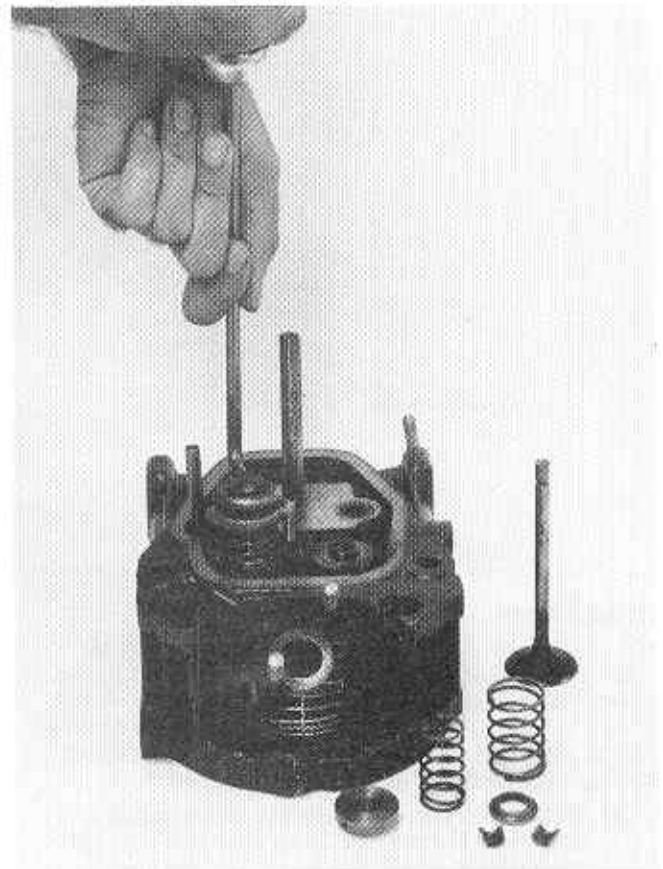

Figure 5.3 Valve Removal
Cylinder Head Dismantling (Figure 5.3)
- (3) Clean the carbon from the counter-bore at the valve head end of the valve guide bore. (Figure 5.3). Check the valve guides for wear if worn renew the guides.
- (4) Clean the valves and check the valve seats. If the valves are badly pitted or distorted it will be necessary to fit new valves. Grind the valves in as detailed in Paragraph 5.8.
- (5) If the valve seats are pocketed carry out the procedure detailed in Paragraph 5.7.
- (6) Check that the breather tube, which is located to one side of the inlet port is clear.